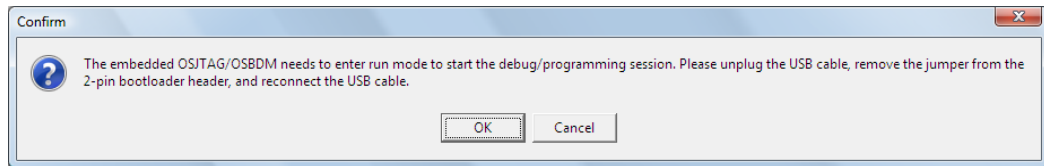

Figure 26: Last stage of updating OSBDM firmware
7. When the update completes you will see a warning similar to Figure 26. Unplug the USB cable, remove the JP3 jumper, and finally reconnect the USB cable to return to normal operation.